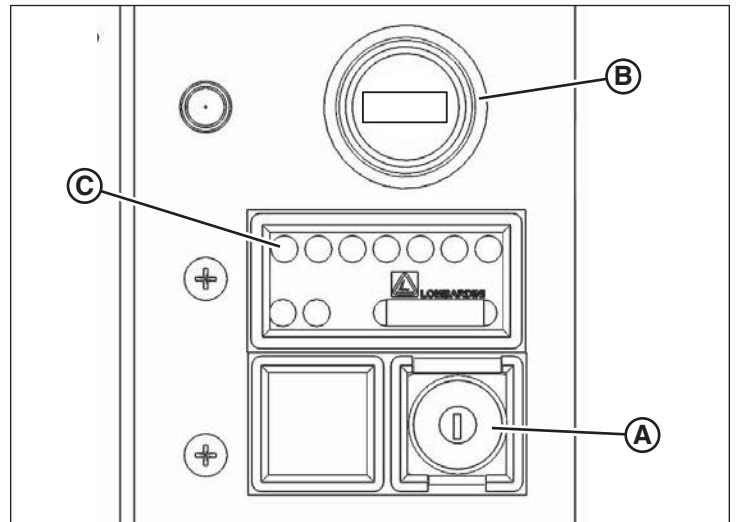

Figure 22
The Kohler engine control panel consists of the engine start/stop key (A, Figure 22), hour meter (B), and engine warning indicator lights (C).